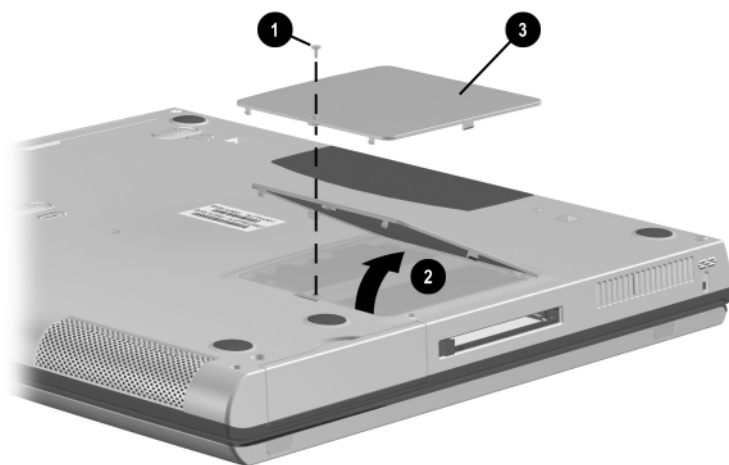

Figure 5-6. Removing the Memory Expansion Compartment Cover
3. Remove the silver M2 \times 5 screw ❶ that secures the memory expansion compartment cover to the base enclosure (Figure 5-6).
4. Use the notch in the front of the memory expansion compartment cover to lift up the front edge of the cover and swing it up and toward the back of the computer ❷.
5. Remove the memory expansion compartment cover ❸.